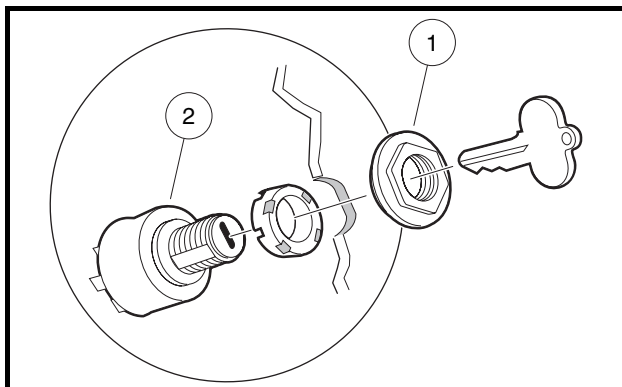

Figure 12-18 Key Switch Removal
- 4.1. Remove the key switch nut (1) (**Figure 12-18, Page 12-14**).